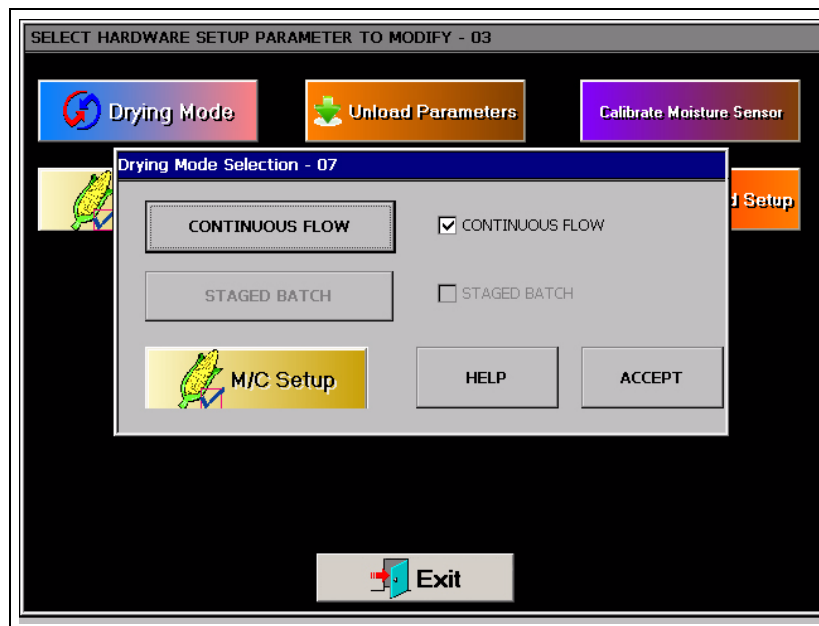

Figure 5G
1. **Drying Mode:** The  button will display the “Drying Mode Selection” window. Select continuous flow. A check mark is displayed next to the currently selected drying mode. (See Figure 5G.)